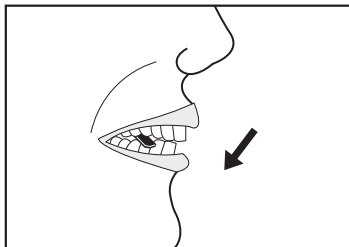

Fig. 30.2 Squeeze the back teeth together.
4. Once the patient's jaw is in the back position, have the patient squeeze as if to put the back teeth together. See figure 30.2 on page 30.